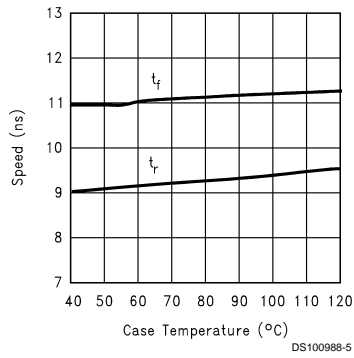

FIGURE 4. Speed vs Temperature
*Figure 4* shows the performance of the LM2439 in the test circuit shown in *Figure 2* as a function of case temperature. The figure shows that the rise time of the LM2439 increases by approximately 3% as the case temperature increases from  $50^{\circ}\text{C}$  to  $100^{\circ}\text{C}$ . This corresponds to a speed degradation of 0.6% for every  $10^{\circ}\text{C}$  rise in case temperature. The fall time increases by approximately 3% which corresponds to a speed degradation of 0.6% for every  $10^{\circ}\text{C}$  rise in case temperature.